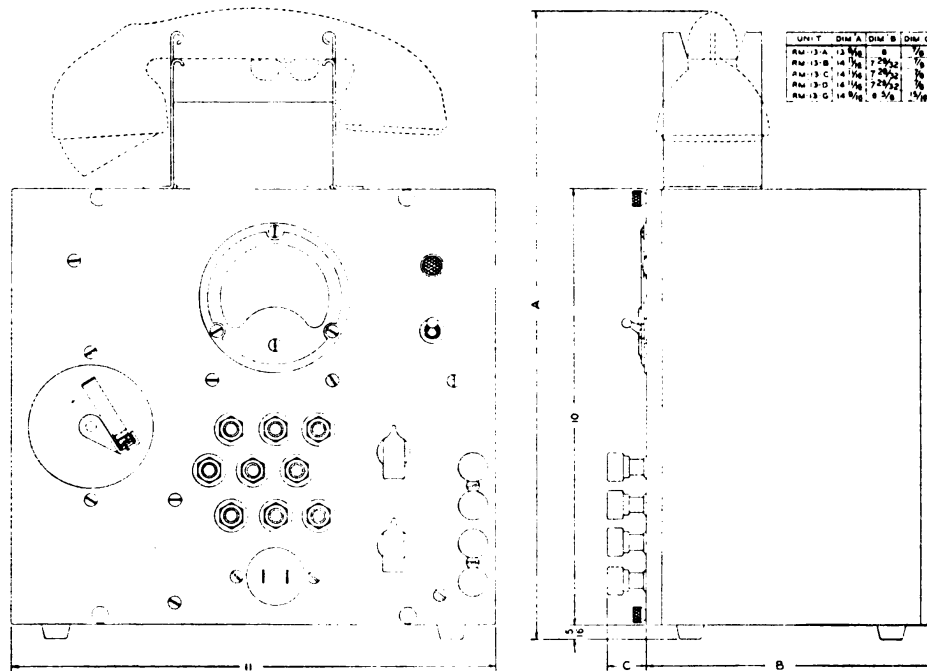

Fig. 12—Remote Control Unit RM-13-(\*)—outline dimensions
*b. Control Unit RM-13-(\*)* is also a self-contained unit, the dimensions of which are as shown in figure 12. All control and indicating equipment, switching, and provisions for external connections are panel mounted and consist of the following:
- (1) 1 – Volume indicator meter (–10 to +6 db scale)
- (2) 1 – Volume control switch
- (3) 3 – Microphone jacks
- (4) 3 – Key jacks
- (5) 1 – Three-pole, three-position selector switch
- (6) 1 – S.P. S.T. power switch
- (7) 1 – Pilot indicating lamp
- (8) 1 – Power Socket
- (9) 4 – Binding posts (line connections)
- (10) 1 – Telephone EE-8-B, crank